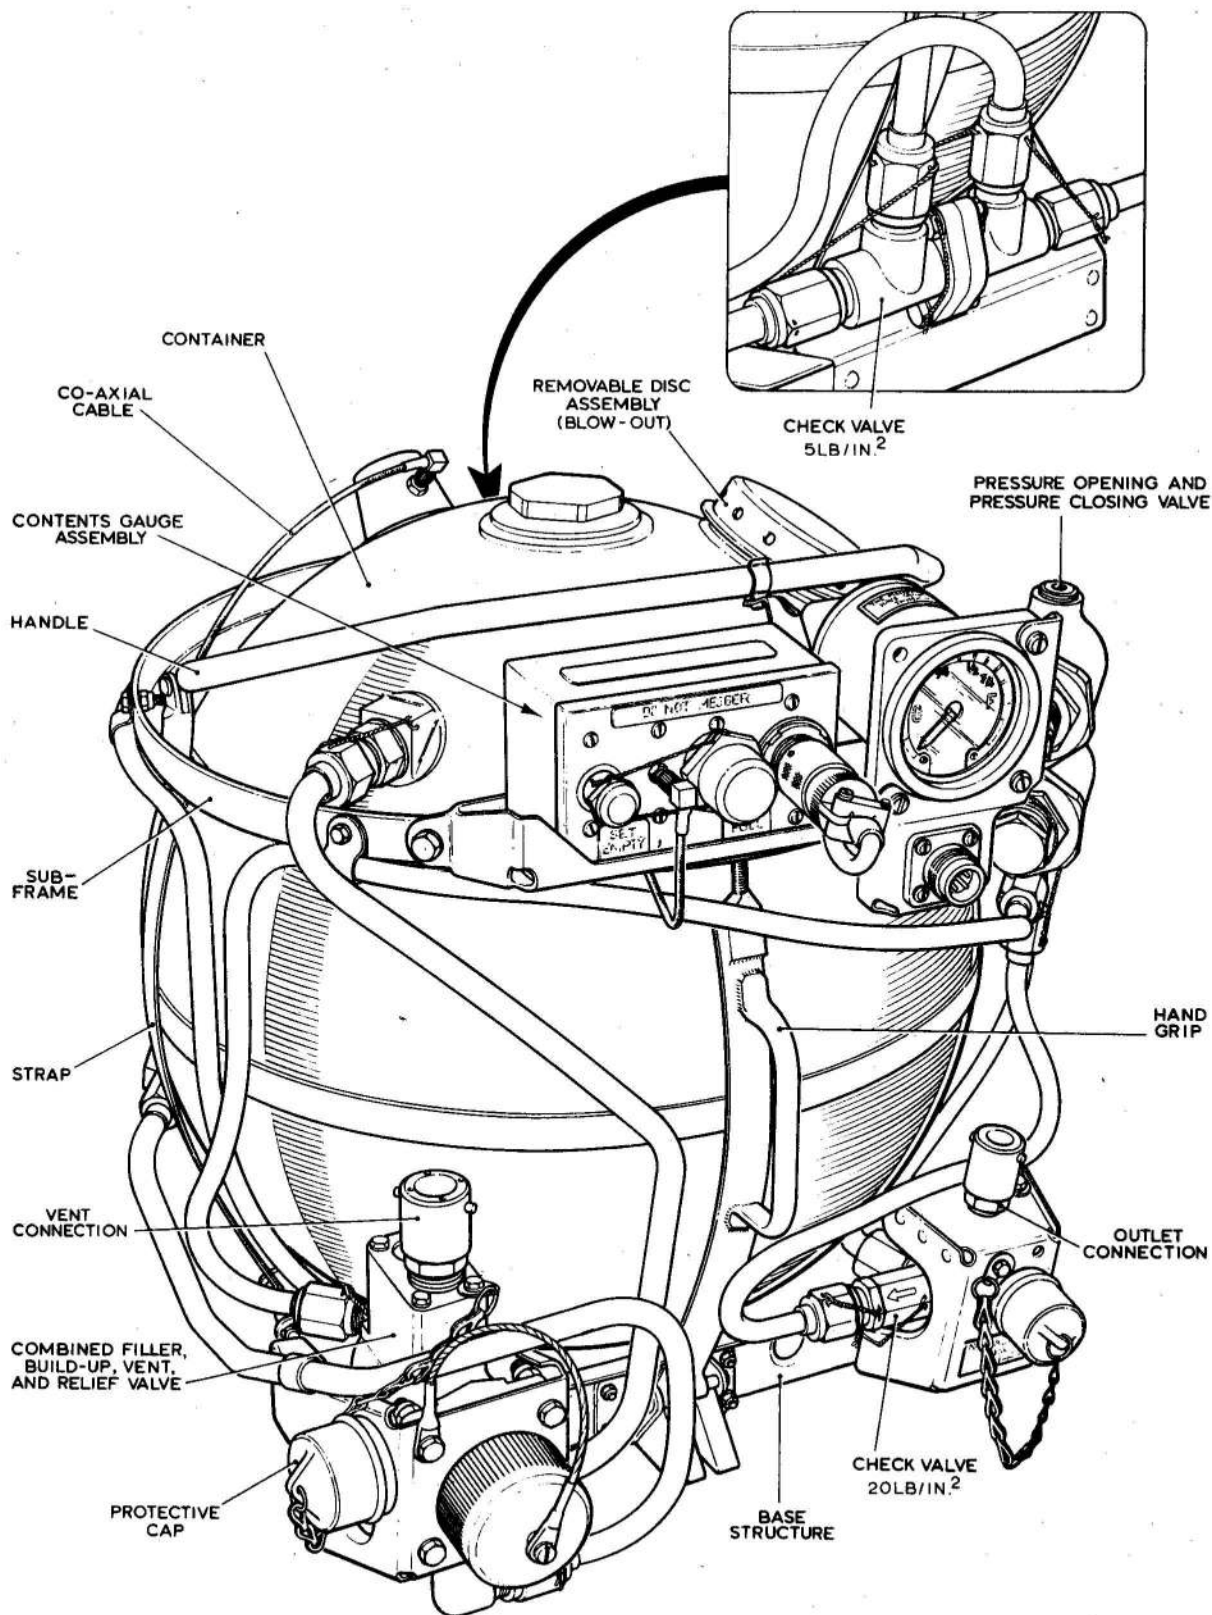

Fig. 1. 10 litre removable liquid oxygen package
1. The 10 litre removable liquid oxygen package (fig. 1) incorporates all the components of a liquid oxygen converter system in a single self-contained unit. Through the medium of quick-disconnect couplings, the package can be readily connected to, or disconnected from, the oxygen system of certain aircraft.